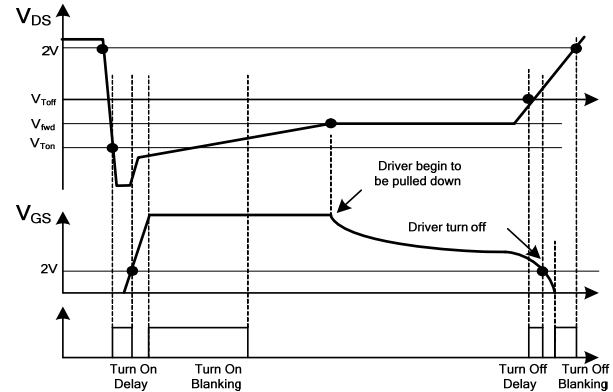

Figure 2: Turn-On/Turn-Off Timing Diagram
When VDS drops to ~2V, a turn-on timer begins to count. This turn-on timer can be programmed by an external resistor on SLEW. If VDS reaches the -86mV turn-on threshold from 2V within the time (TSLEW) set by the timer, the MOSFET is turned on after a turn-on delay (around 30ns) (see Figure 2). If VDS crosses -86mV after the timer ends, the gate voltage (VG) remains off. This turn-on timer prevents the MP6909 from turning on falsely due to ringing from DCM and quasi-resonant operations.
When VDS rises to trigger the turn-off threshold (-3mV), the gate voltage is pulled to zero after a very short turn-off delay of 25ns (see Figure 2).
After the gate driver (VGS) is pulled to zero by VDS reaching the turn-off threshold (-3mV), a turn-off blanking time is applied, during which the gate driver signal is latched off. The turn-off blanking is removed when VDS rises above the turn-off blanking exit threshold (2 to 3V) (see Figure 2).